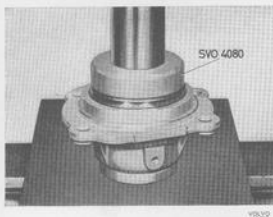

Fig. 4-33. Fitting ball bearing in rear cover
1. Press the ball bearing into the rear cover, see Fig. 4-33, and fit the snap ring. There are different thicknesses of snap rings, so select one which fits snugly into the groove.